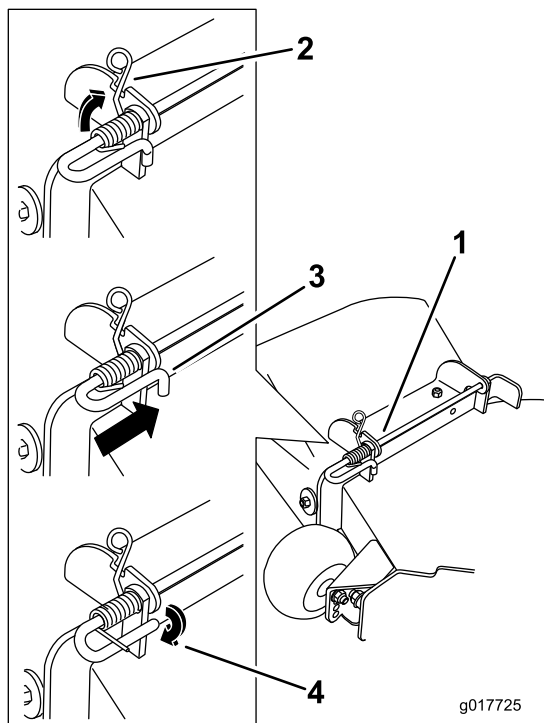

Figure 72
5. Lift the loop end of the spring and place it into the notch on the deflector assembly bracket (Figure 72).
6. Secure the rod and spring assembly by twisting it so the short end of the rod can be placed behind the front bracket welded to the deck (Figure 72).